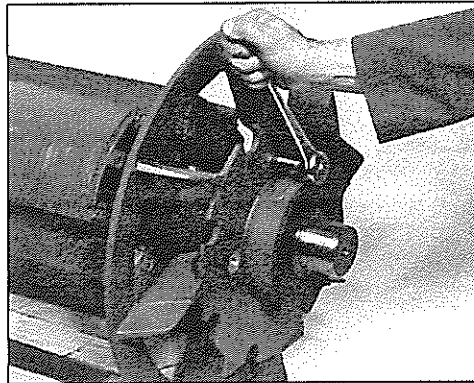
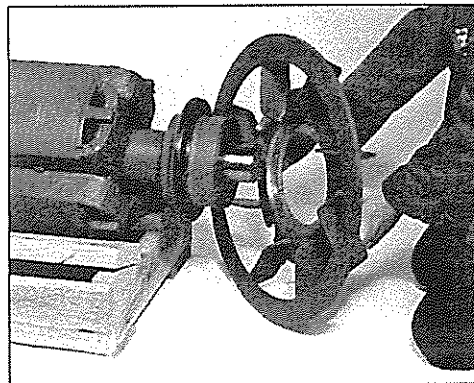

Figure 6-40
Figure 6-41
- a. For single bearing generators, remove the fan mounting capscrews (figure 6-40) and slide the fan off the shaft (figure 6-41).
- b. For two-bearing generators, remove the drive end bearing and bearing cap (see bearing removal instructions). Remove the fan mounting capscrews and slide fan off the shaft (figure 6-40 & 6-41).